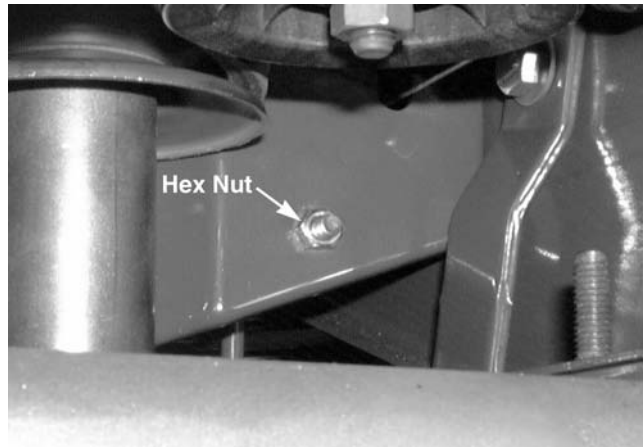

**Figure 8-32.**
11. Remove the self tapping washer head hex screw that secures the left side of the half circle belt keeper to the frame using a 3/8" socket. See Figure 8-32.